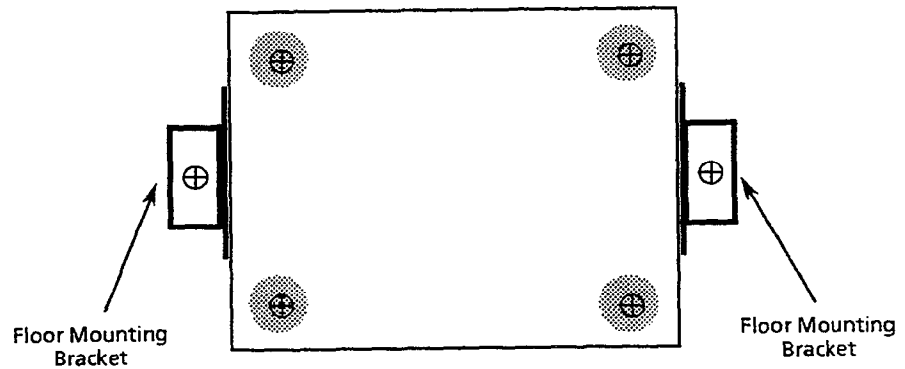

Figure 3-19 Bottom View of the Floor Mounting Brackets
1. Attach the two provided floor mounting brackets to the underside of the Basic KSU. Refer to Figure 3-19 - Bottom View of the Floor Mounting Brackets.